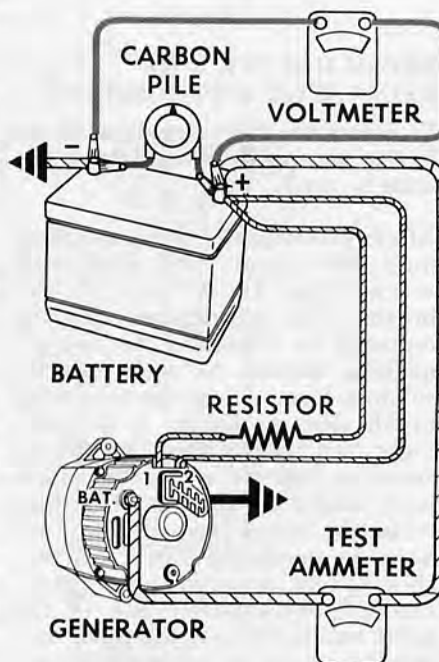

Figure 18—Connections for bench check of generator.
1. Make connections as shown in Figure 18, except leave the carbon pile disconnected. **IMPORTANT**—Ground polarity of battery and generator must be the same. Use a fully charged battery, and a 10 ohm resistor rated at six watts or more between the generator No. 1 terminal and the battery.